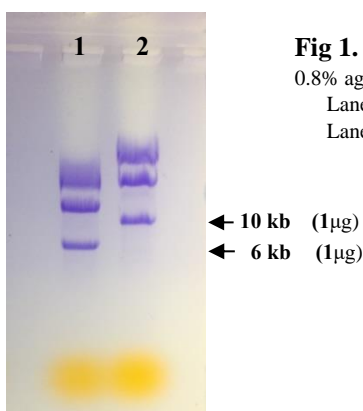

Fig 1. Agarose gel electrophoresis using the gel containing Crystal Violet.
8. Monitor the long ssDNA blue bands moving in the gel during electrophoresis (Figure 1). Stop the electrophoresis after the bands are sufficiently resolved. ^{*11, *12}